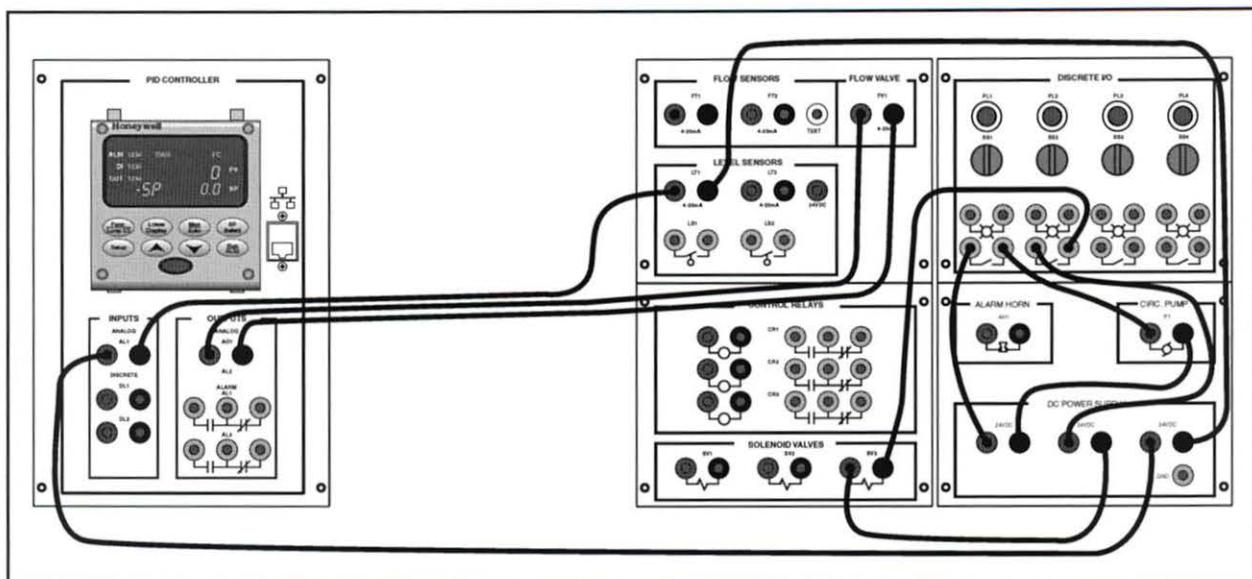

Figure 52. T5552 Setup
F. Connect the circuit shown in figure 52.